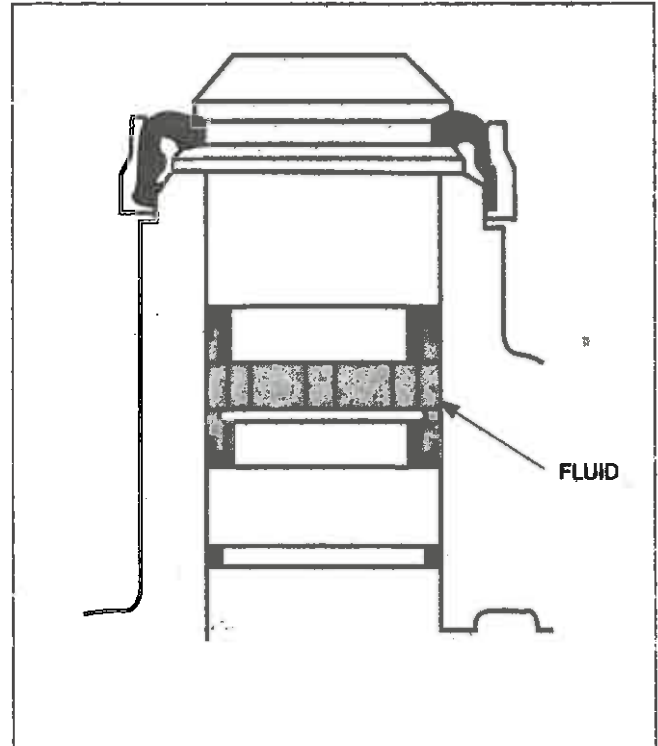

figure 3
17. To replace the seals lube them with DOT 3 brake fluid. Carefully install them onto the pistons. Insure the lip of the seal is towards the fluid side of the pistons (see fig. 3).